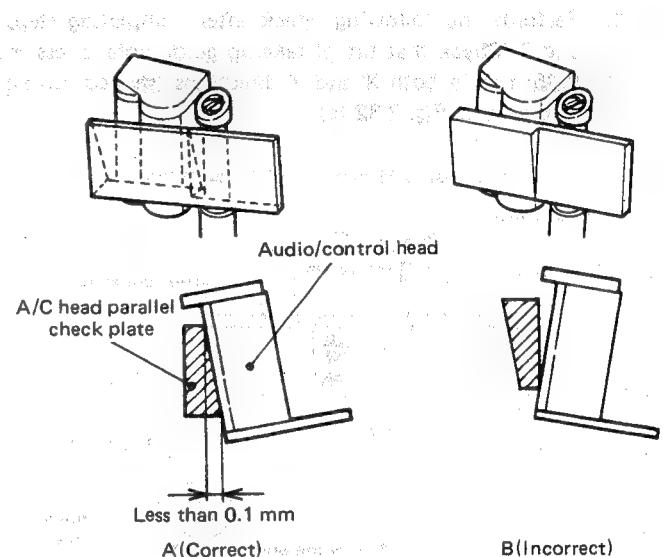

Fig. 2-30
2. Put the A/C head parallel check plate against the audio/control head as shown in Fig. 2-30 and confirm that the degree of inclination is less than 0.1 mm as shown by A.